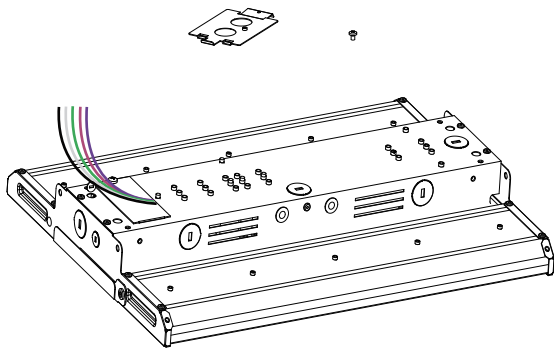

Figure 8
- Locate the wiring compartment access panel on the back of the fixture body and remove the screw to open the access panel, set screw aside. (Figure 8)